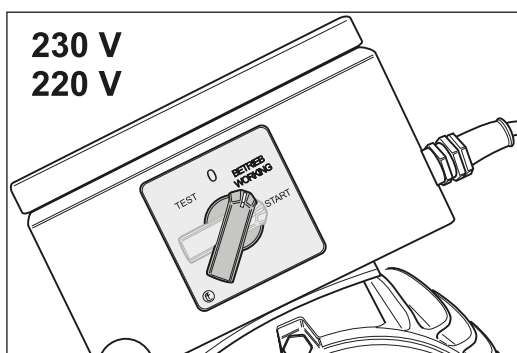

Fig. 18 Once the motor has reached its full speed, release the switch button. The switch button will then automatically move to position -BETRIEB (WORKING)-.
- 3 Once the motor has reached its full speed, release the switch button. The switch button will then automatically move to position -BETRIEB (WORKING)- (fig. 18).